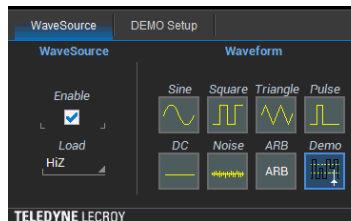

Figure 12: The WaveSource dialog box controls the WaveSurfer 3000's internal signal generator
- Touch the WaveSource button at lower right on the front panel (or touch the Utilities drop-down menu and then touch WaveSource) to open the WaveSource dialog box (see Figure 12)